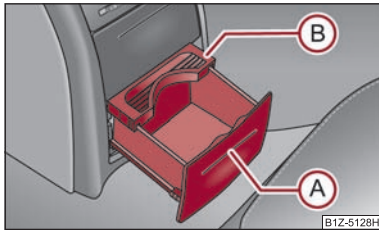

Fig. 81 Centre console at rear: Cup holder
- Press on the panel in the area (A) ⇒ fig. 81 - the cup holder comes out.
- Adjust the cup holder by moving the locking plate (B).